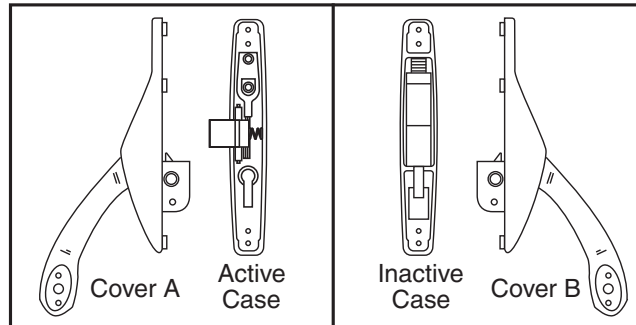

Figure 14
2. Using screwdriver, pry nylon button from inside of inactive case cover (Cover B) and replace it in hole in back of active case cover (Cover A). (Figure 14)